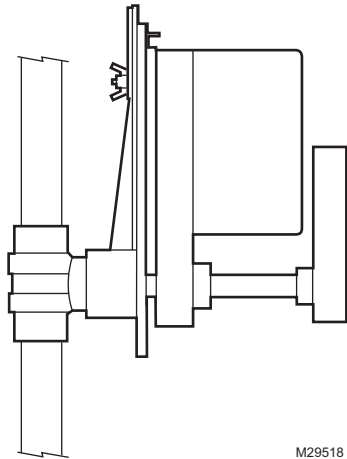

Fig. 2. Vertical valve installation.
6. Valve must be mounted with the actuator/bracket above pipe center line. Do not install the valve with the stem below horizontal or upside down without NEMA 3, 4, or 4X actuator enclosure to prevent actuator damage due to condensation or leaks. (See Fig. 2 and Fig. 3.)